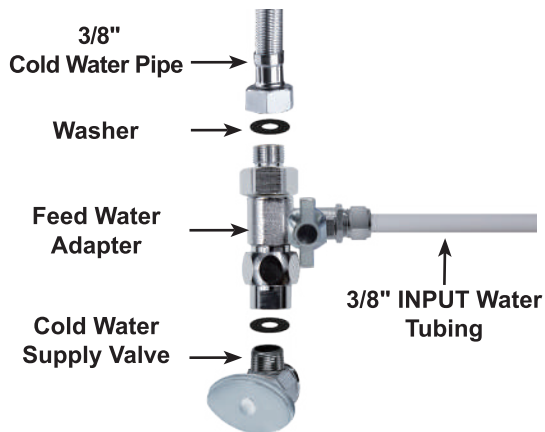

Figure 4
3. Twist the feed water adapter onto the cold water supply valve (with its washer) and tighten it with an adjustable wrench (Figure 4);